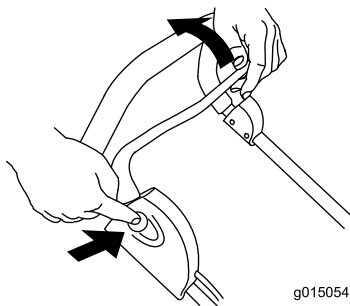

Figure 10
4. While holding in the button, pull the control bar toward the handle (Figure 10).